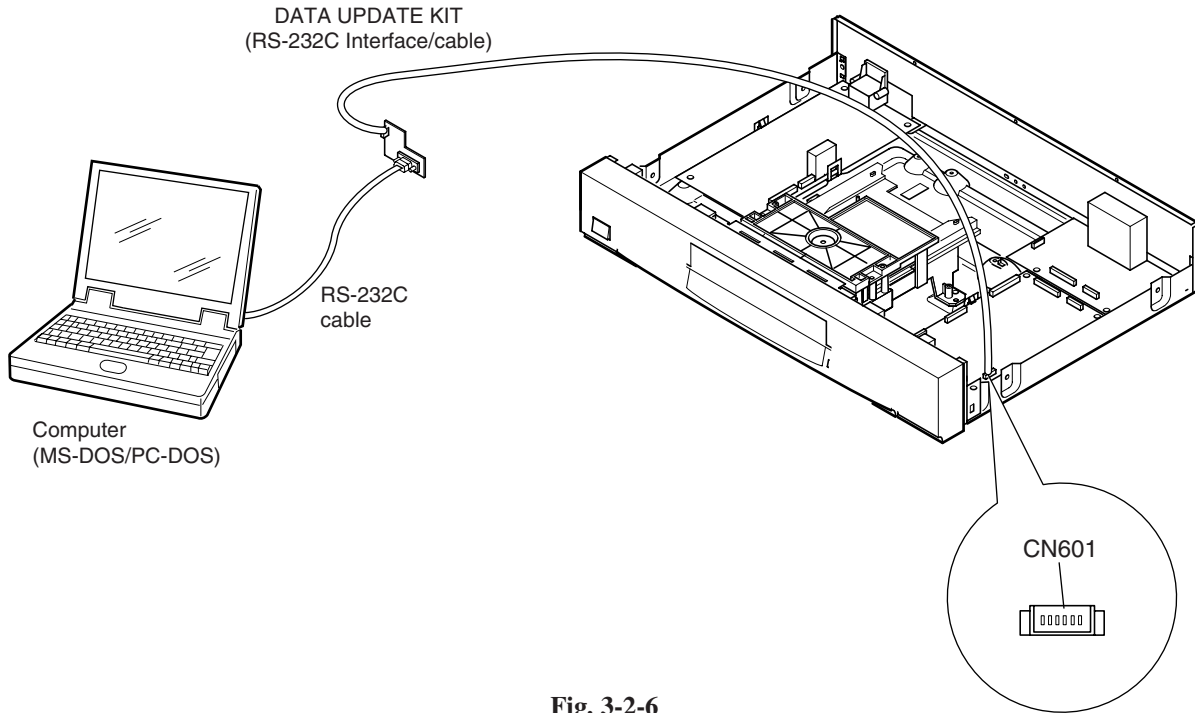

Fig. 3-2-6
3. Connect a computer to the main PC board of the DVD video player with using DATA UPDATE KIT (P/No. 79080074). (Fig. 3-2-6)